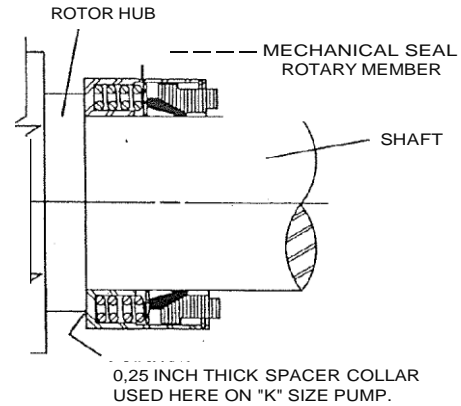

FIGURE 14
6. Place the tapered installation sleeve (furnished with H, HL, K, KK, L, LQ and LL size replacement mechanical seals) on the shaft. Refer to Figure 13. Coat the inner diameter of the seal rotary member, tapered installation sleeve and the shaft with a generous quantity of non-detergent SAE 30 weight oil. Place the rotary member on the shaft over the sleeve and against the hub of the rotor. **Refer to Figure 14.**